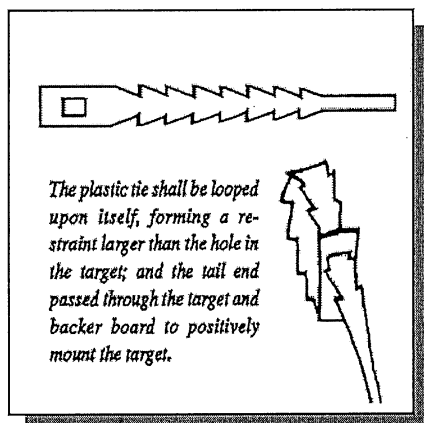
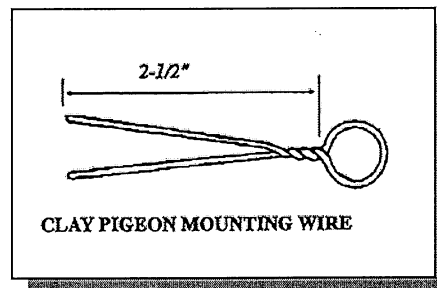

Figure 4.2
Figure 4.3
- e. **PIGEON BOARD ATTACHMENTS**—Pigeons shall be mounted using either a trash bag tie looped back through itself (see figure 4.2) or a wire device as in figure 4.3.